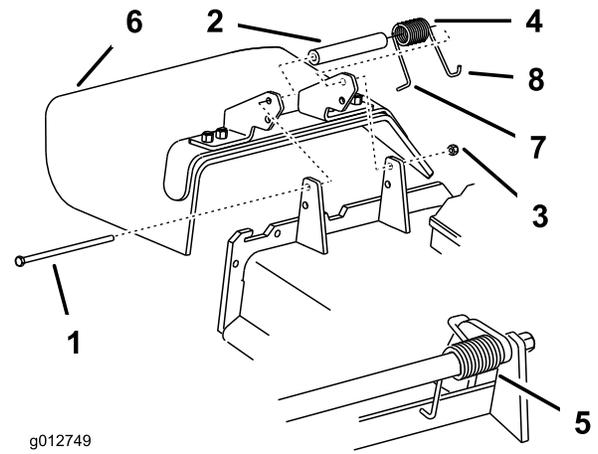

Figure 60
1. Remove the locknut, bolt, spring and spacer holding the deflector to the pivot brackets (Figure 60). Remove damaged or worn grass deflector.
Note: Make sure the L end of spring is installed behind deck edge before installing the bolt as shown in Figure 60.
3. Install bolt and nut. Place the J hook end of spring around grass deflector (Figure 60).